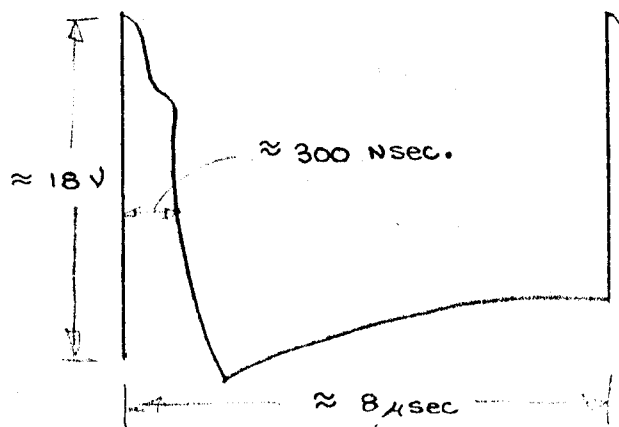

Fig. 2
- Adjust MEMORY GATE WIDTH pot for approximately 300 nsec pulse width (measured at 50% points) and a pulse amplitude of 18 v \pm 5%. (See Fig. 2). Check for the same pulse and amplitude on channel B Memory board, pin V. Set 4S2 upright again.